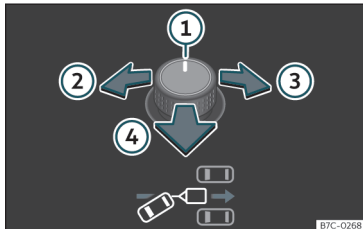
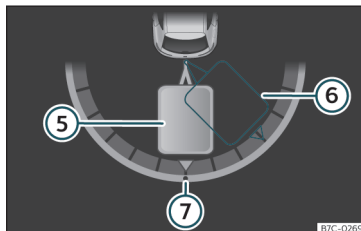

Fig. 188 Rotary exterior mirror controls.: adjust the trailer angle.
Fig. 189 Instrument panel display: engage reverse gear
Key of the **Fig. 188**, >>> **Fig. 189**:
• Tilt the rotary control until the desired direction is reached >>> **Fig. 188**. A representation of the tow vehicle and trailer set is shown on the instrument cluster screen for guidance purposes >>> **Fig. 189**.